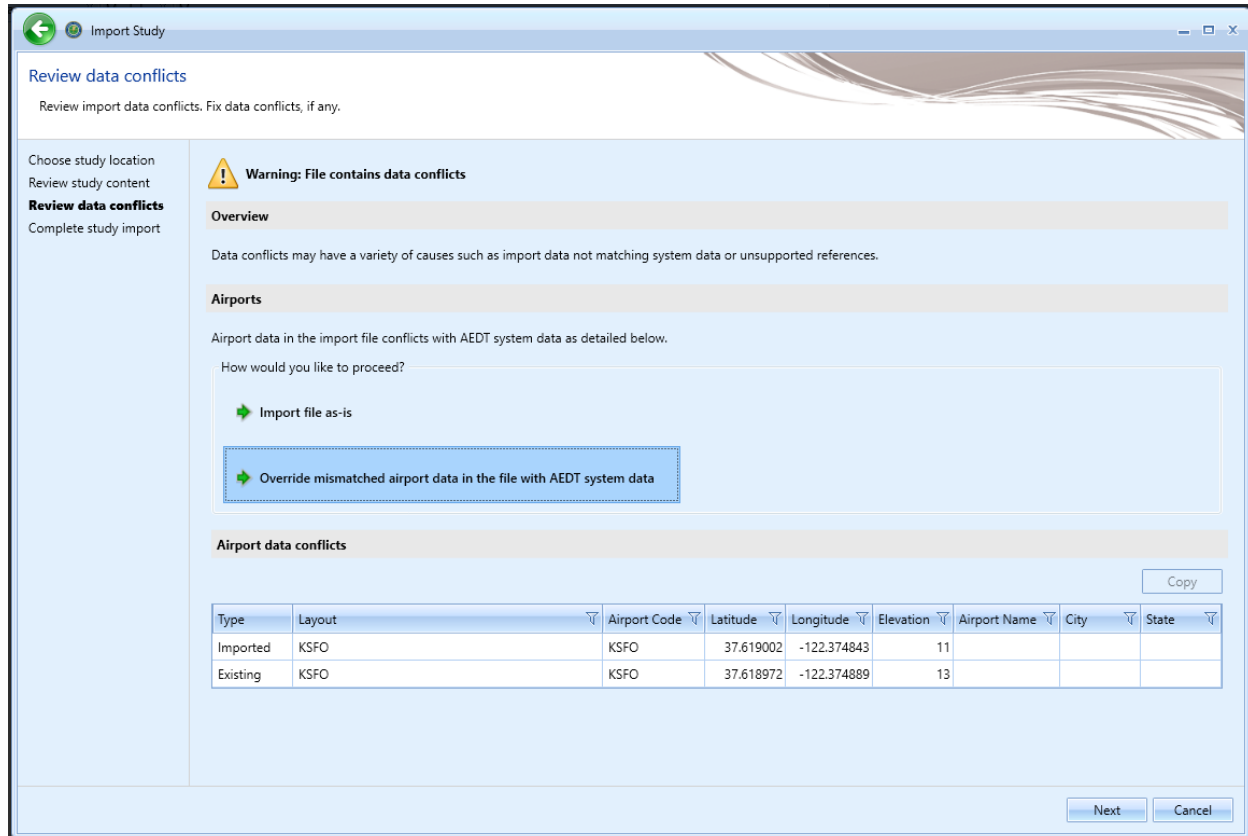

Figure 56- Review data conflicts
5. The *Review data conflicts* step displays any conflicts between study airport data and AEDT airport data (Figure 56).